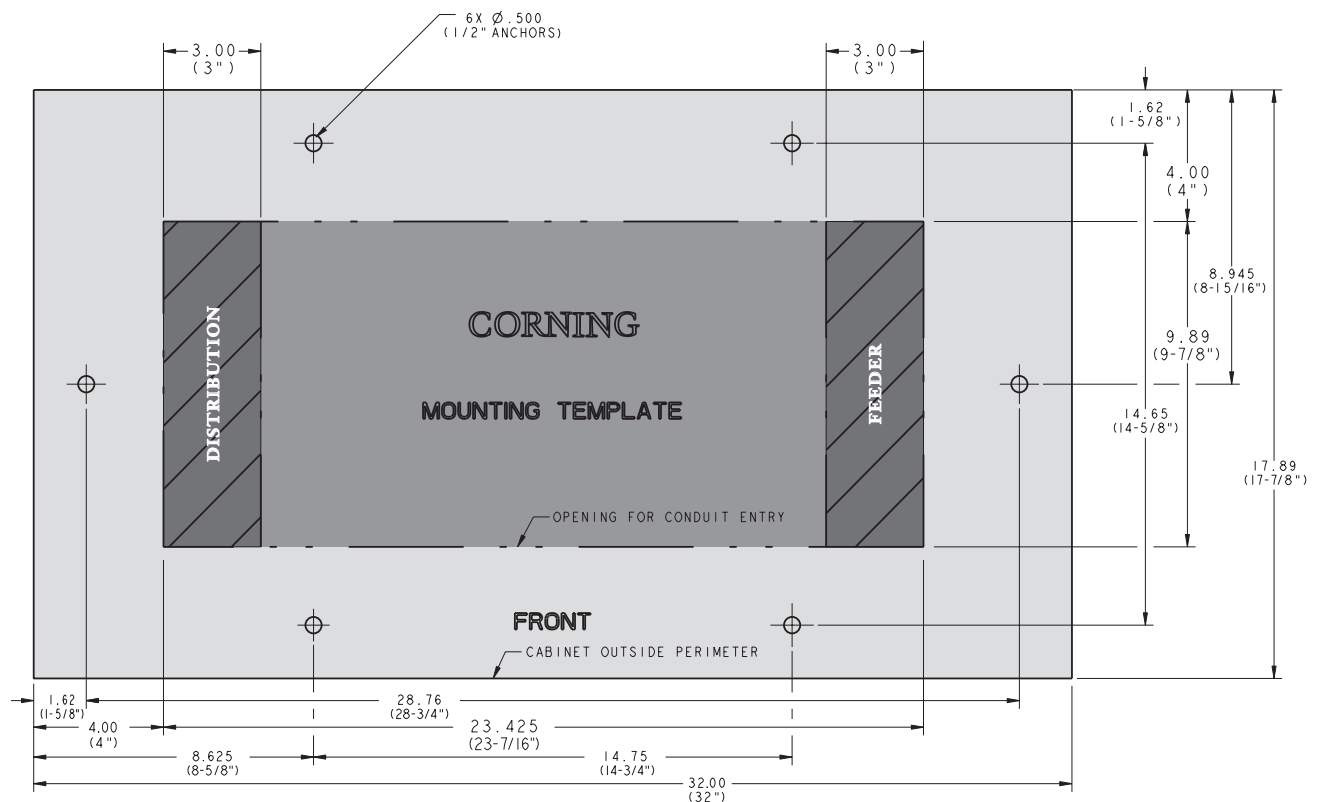

Figure 4 — Template for Pad-mounting Hardware Location
- Step 1** If not using a precast pad with mounting hardware installed, use the template provided to mark the location for the mounting bolts (Figure 4). Drill a hole in the poured pad and insert the mounting bolts (maximum 0.5-inch diameter).